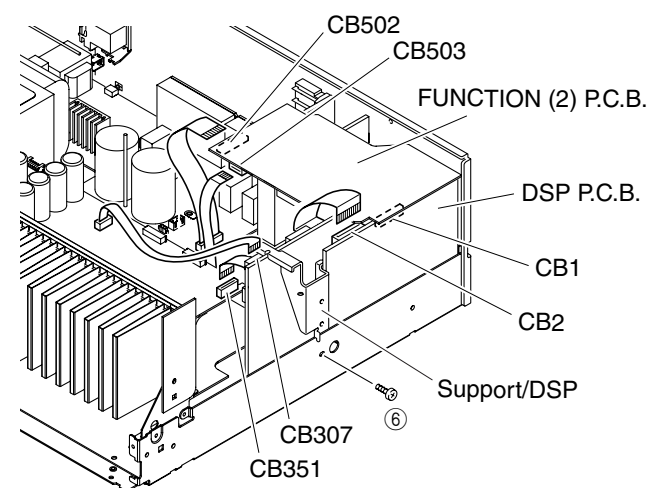

Fig. 2
- Remove 1 screw (⑥). (Fig. 2)
- Remove CB2. (Fig. 2)
- Lift up the FUNCTION (2) P.C.B. and remove the CB1. (Fig. 2)
- Remove the DSP P.C.B. with the Support/DSP. (Fig. 2)
6. Removal of FUNCTION (1) ~ (8) P.C.B.s and Tuner
- Remove CB307, CB351, CB502 and CB503. (Fig. 2)